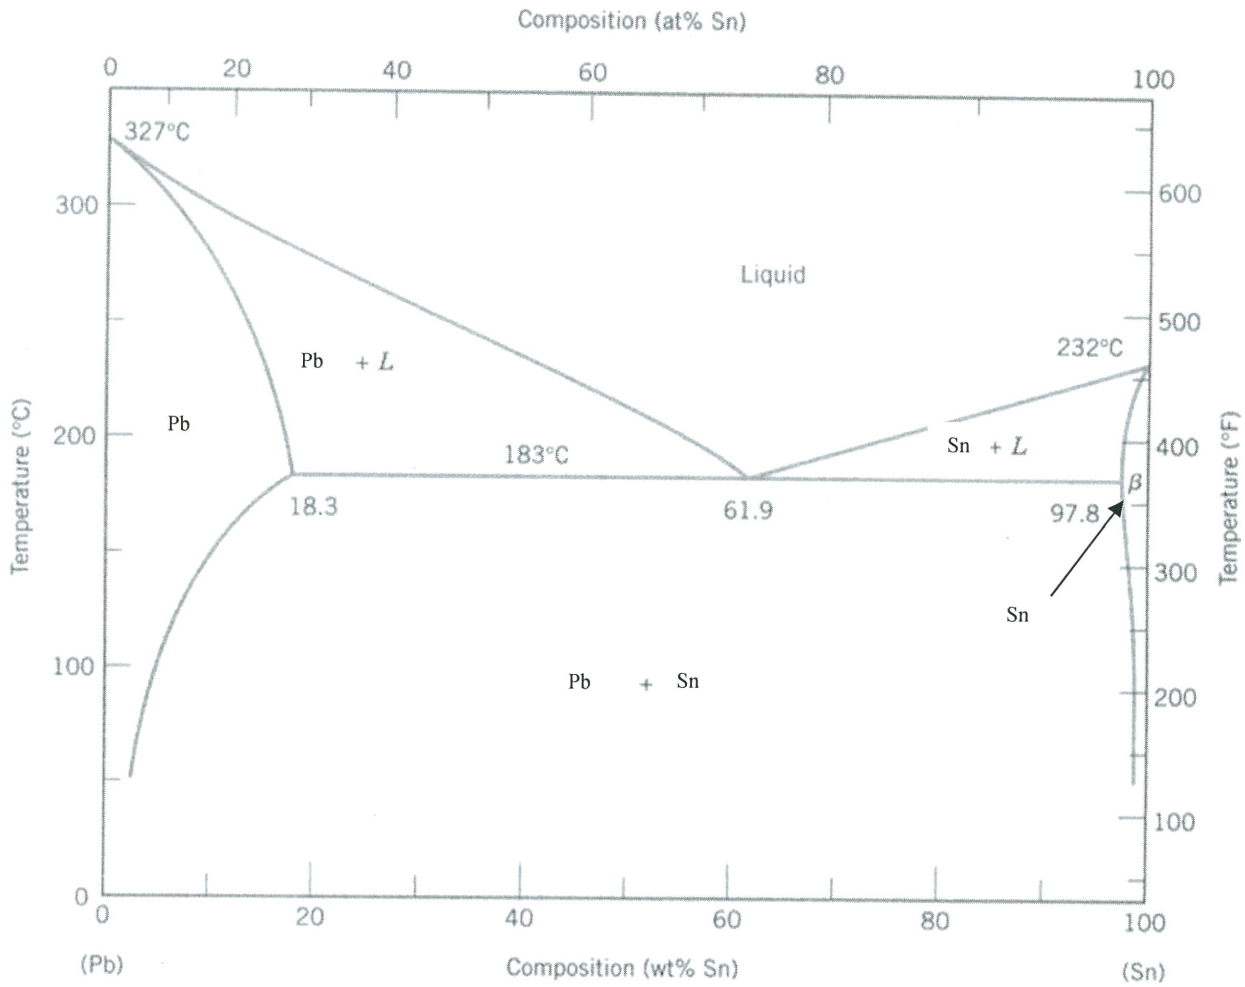

Figure Q3 (c)
- (c) By plotting phase diagram of Pb-Sn (Refer **Figure Q3 (c)**), plot the graph and make a phase analysis for composition of 30 % Sn at $183\text{ }^{\circ}\text{C} + \Delta T$ and 30 % Sn at $183\text{ }^{\circ}\text{C} - \Delta T$ by find:
- Q4** (a) Translation is one of the first steps in materials selection process. List down the **four (4)** items related to *translation* that needs to be analysed and explain briefly each of the items. (12 marks)
- Q5** (a) Explain briefly the difference between ferrous and non-ferrous metals. Give **two (2)** examples for each type. (4 marks)
- (b) Steels are basically categorized into 3 types, namely, low carbon, medium carbon and high carbon steels. Indicate the percentage of carbon content for each type of steel and give **two (2)** examples (products) for each one of them. (9 marks)
- (c) List **four (4)** properties of any **three (3)** of the following non-ferrous metal: